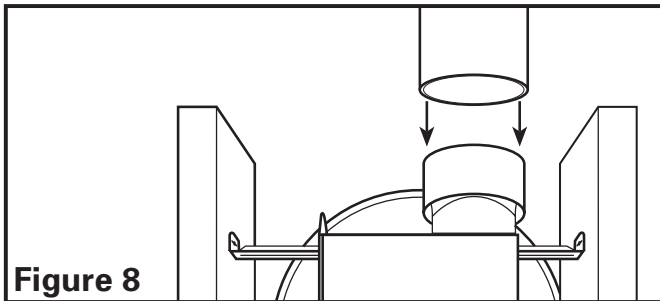

Figure 8
1. Connect the ducting to the fan's duct collar (**Figure 8**). Secure in place using tape or screw clamp. Always duct the fan to the outside through a wall or roof cap.